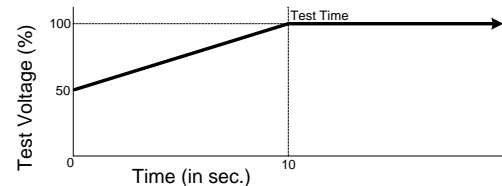

Figure 3: Test Voltage Ramp Characteristics
4. Select appropriate test voltage, test time, leakage current limit and ramp time for your application. See IPD datasheets for test voltage and time applied for the specific product in use. IPD leakage current limit is set to 5mA max. when applying VDC test voltages. Ramp time is described in 60601-1 3rd Ed., clause 8.8.3. See Figure 3.